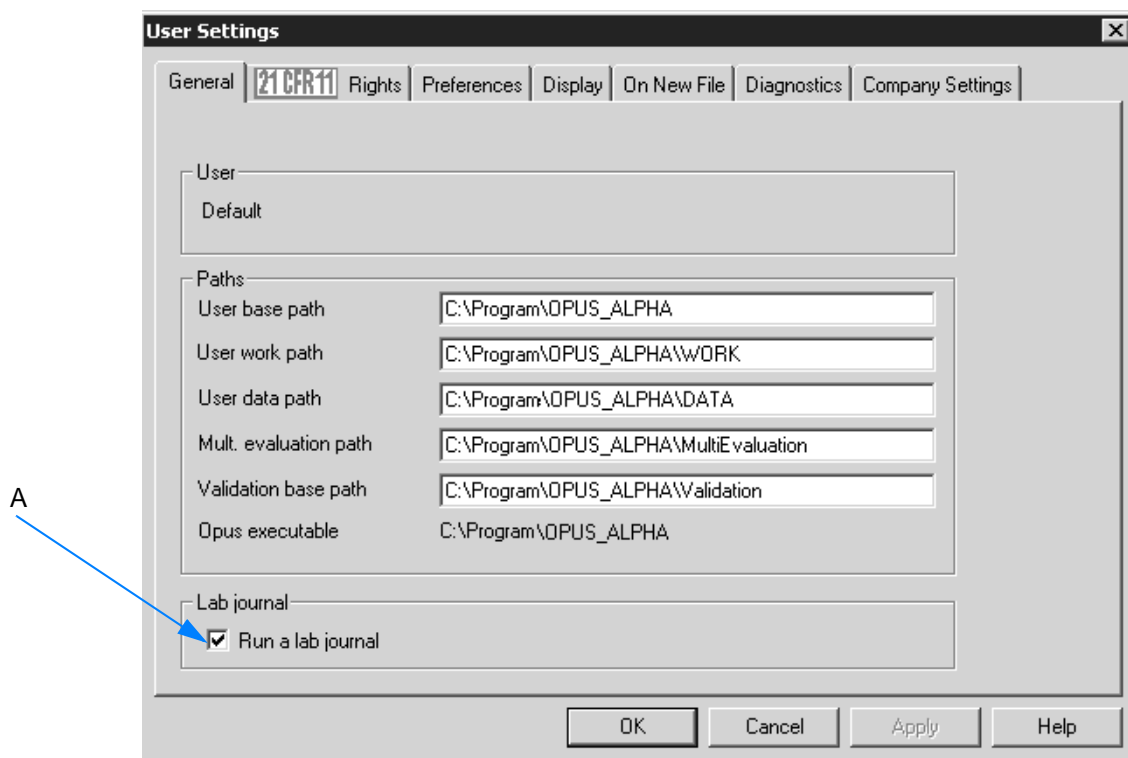

Figure 74: User Settings - Run a lab journal
- 2 Activate the *Run a lab journal* check box (A in figure 74) otherwise it will not be possible to create a lab journal.